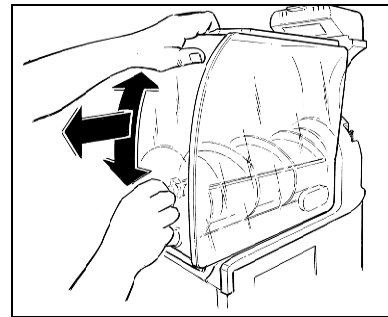

Fig. 18
- Slightly move up and down the bowl as shown in figure 18 while pulling it outwards, this operation will help fully removing it from its seating.
- Mount the mixing system back together (fig.18), according to the following procedures: